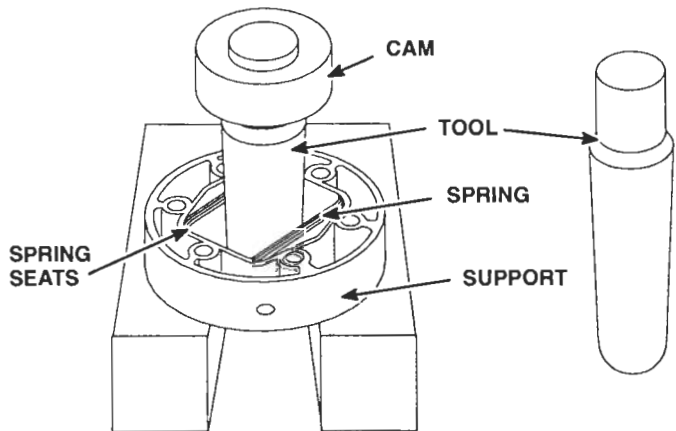

Figure 6. Inserting Blower Drive Cam
- a. Place the drive coupling support on wood blocks (Figure 6.)